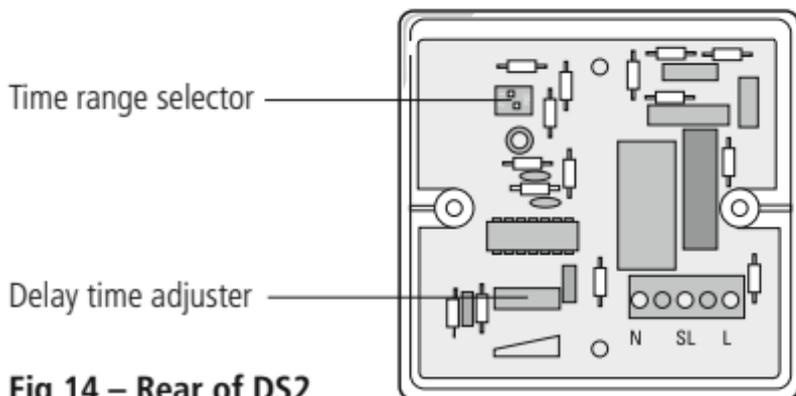

Fig 14 – Rear of DS2
4. On the rear of the DS2 shown below in figure 14 you will notice the terminals "L (Live)", "SL (Switched Live)" and "N (Neutral)", connect the 230V AC 50Hz mains supply to terminal "L (Live)" and the neutral feed of both the load and supply to terminal "N (Neutral)" making sure that the cables are sleeved appropriately and polarities checked.
11. Having established that the DS2 is working correctly the turn OFF the 230V AC 50Hz mains supply remove the two fixing screws removed from the unit. The DS2 can then be pulled away from the wall to enable access to the delay time adjuster and 2 gang range switch (see fig 14).